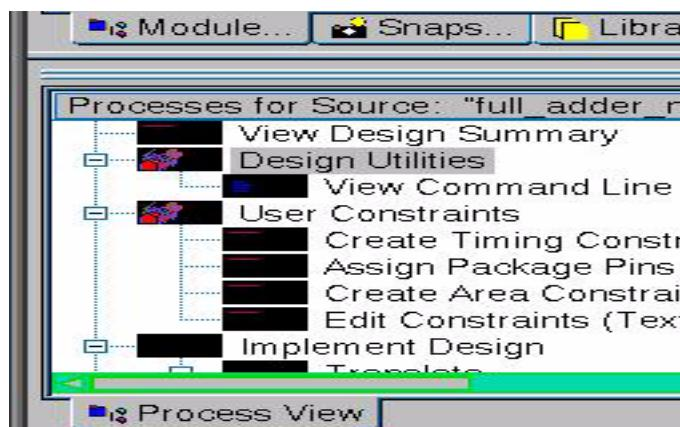

Figure 27: Process including Implement Design.
(8) Select the full_adder_negated.edf file (the file listed beneath xc2vp30-7ff896). You will now note that the **Processes for Source: “xc2vp30-7ff896”** have changed to include the “Implement Design” as shown in Figure 27.